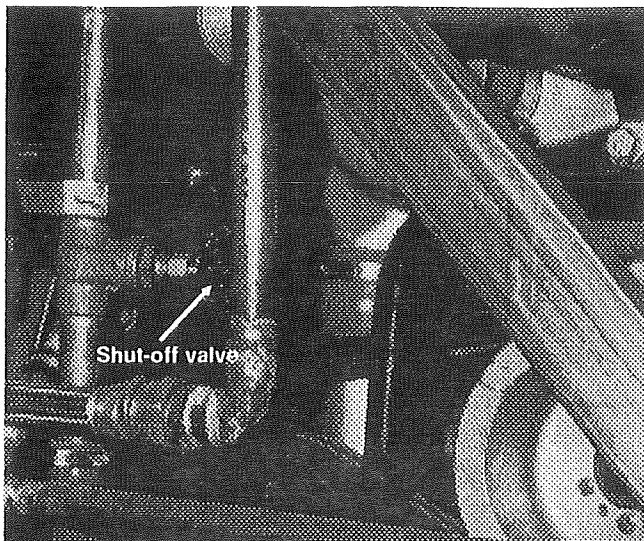

FIG. 5
1. Stop engine and allow engine to cool. Close shut-off valve located in front of the engine, near the water pump (see fig. 5). This valve is accessible by removing the front engine access panel located in the first baggage compartment.